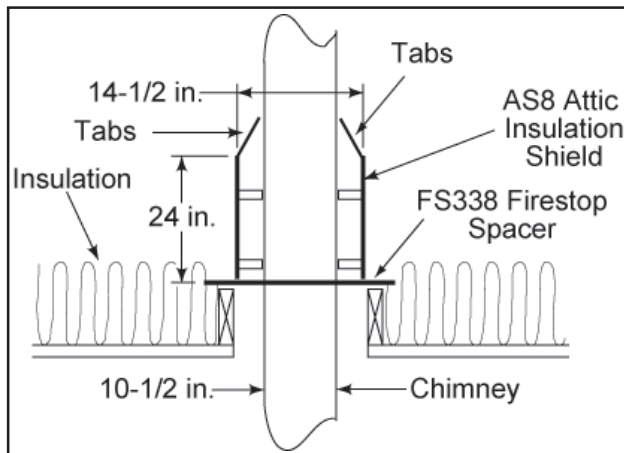

Figure 10 - Installing an Attic Insulation Shield
- Slide the shield down until it rests on the firestop spacer. The firestop spacer will support the insulation shield. See Figure 10.